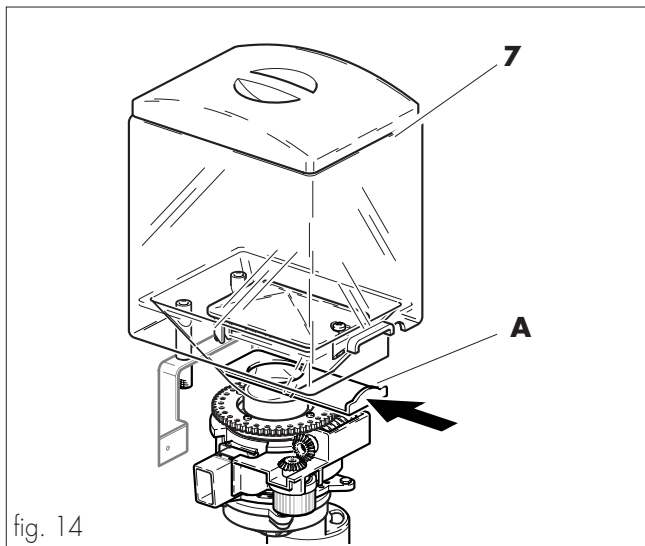

fig. 14
- Close the stop slide (ref. A, fig. 14) of the coffee bean hopper (ref. 7, fig. 14).